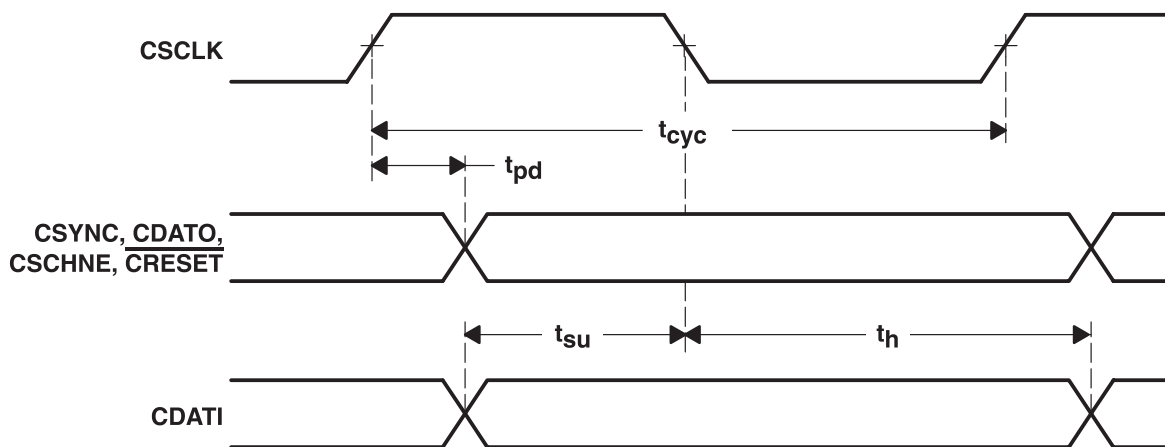

Figure 3-7. General-Purpose Mode Driver Timing Waveform
- (1) The timing waveforms in Figure 3-7 show the CSYNC, CDATO, CSCHNE and CRESET signals generated with the rising edge of the clock and the CDATI signal sampled with the falling edge of the clock. The edge of the clock used is programmable. However, the timing characteristics are the same regardless of which edge of the clock is used.